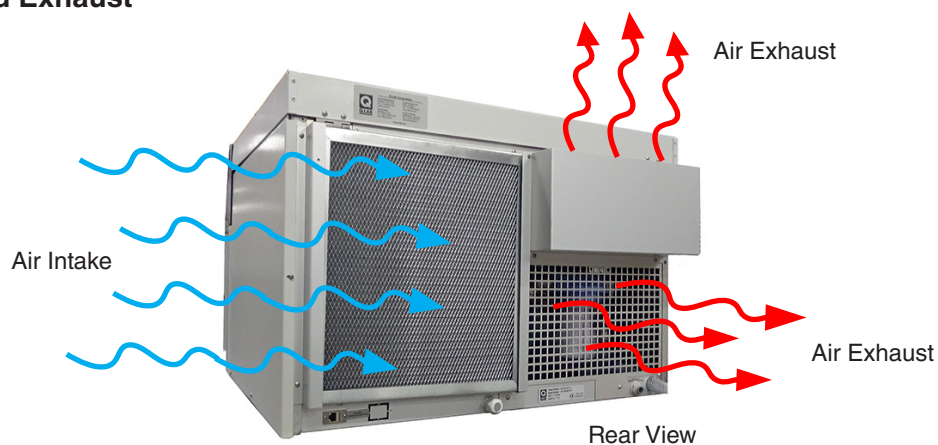

Figure 6.4: Q-SUN Xe-1-B air intake and exhaust areas.
- Xe-1-B testers are designed to release warm exhaust air directly into the room and do not require a vent hood or ducting (Figure 6.4).